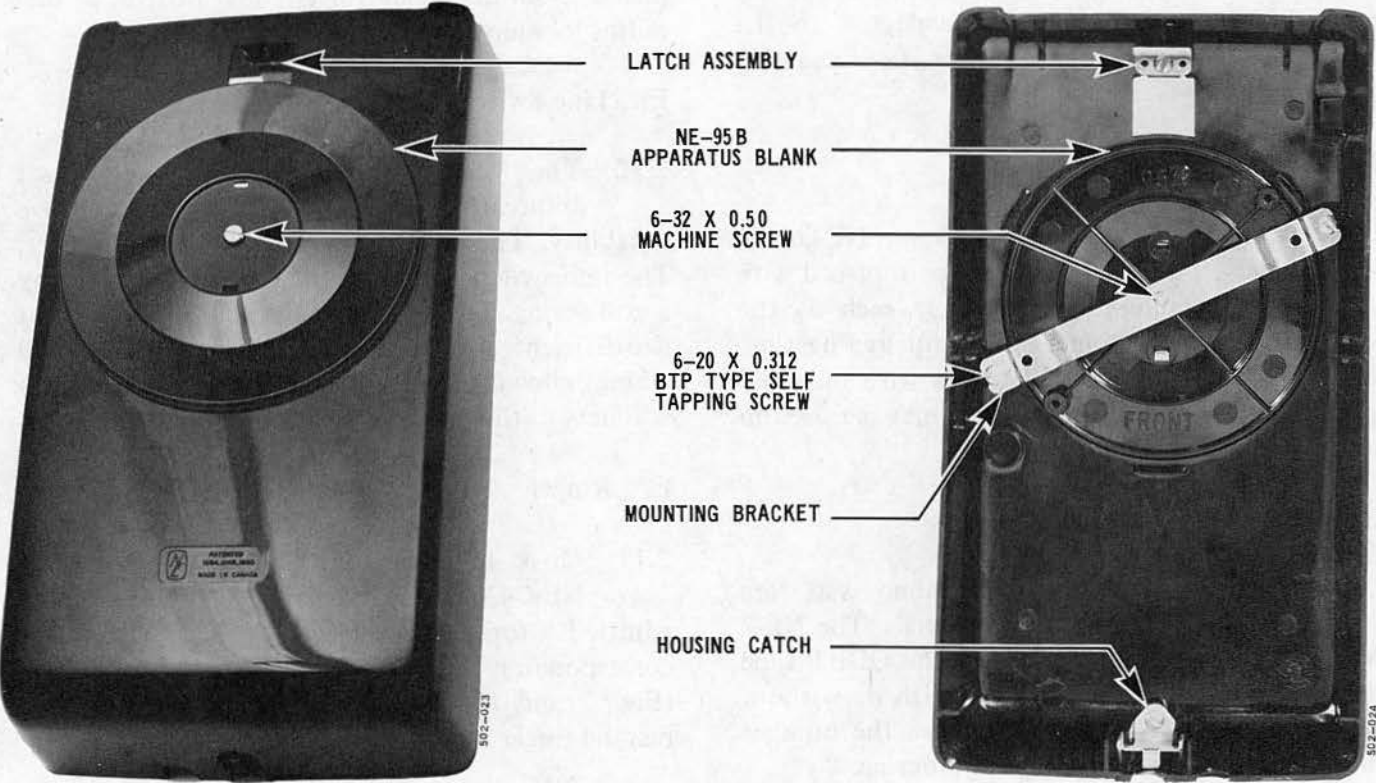

Fig. 6 — NE-554 Type Telephone Set Housing Equipped With an NE-95B Apparatus Blank
3.38 *NE-554AR*. The NE-554AR telephone set is identical to the NE-554BR telephone set, except the dial is replaced with an NE-95B apparatus blank, (Fig. 6), and the set is wired for manual service.